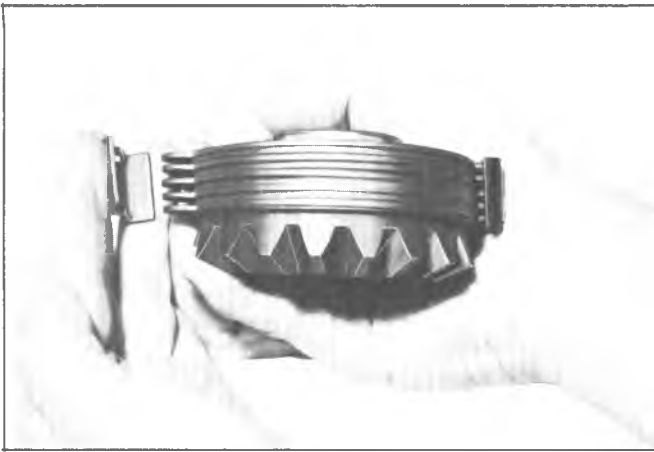

Fig. 10D—Assembling Clutch Pack
2. Alternately position clutch plate and clutch disc on side gear, beginning and ending with clutch plate, until assembly of clutch pack is complete. See Figure 10D.